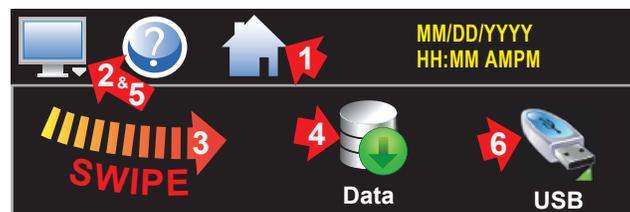

Figure 33. Data Menu - USB Icon
- Copy from and import files to internal memory. Insert USB into cabinet front. Touch: (1)Home (2)Monitor (3)swipe left-to-right, touch: (4)Data (5) Monitor (6)USB icon (Figure 33).